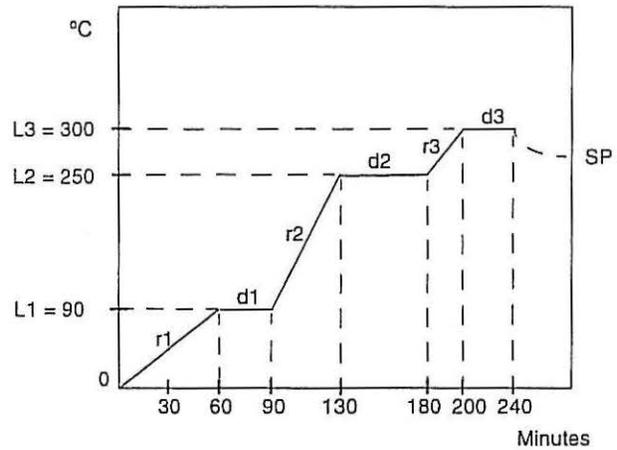

Figure 5. Three-step Program
Example 1 (shown in Figure 5) has three ramp/dwell pairs, so Pr is set to the value 3. The idle setpoint (SP) is set to 260°C prior to running the program.